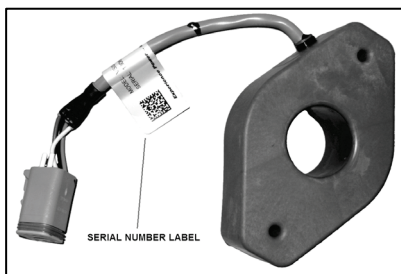
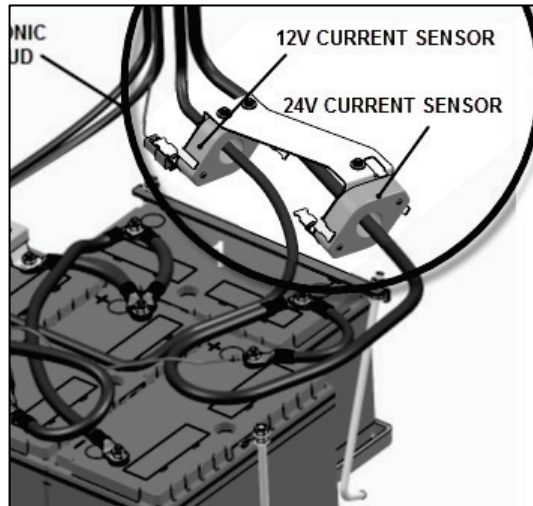

Figure 6: Typical Current Sensor.
Figure 7 : H series
2. Locate sensors next to batteries (Fig 7 & 8). Defective Sensors have a serial number starting with **14300, 14307 or 14314** (Fig 6). If found, consult **Table 2** below to confirm serial number is part of list.